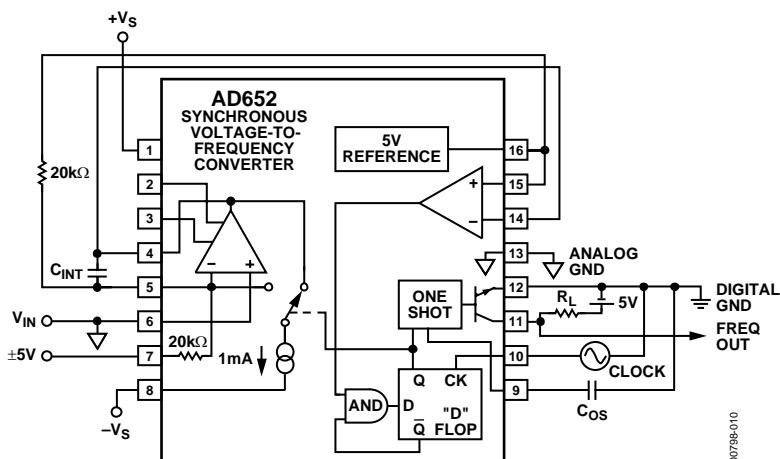

Figure 10. Bipolar Offset
A bipolar input voltage of  $\pm 5$  V can be accommodated by injecting a  $250 \mu\text{A}$  current into Pin 5 (see Figure 10). A  $-5$  V signal provides a zero sum current at the integrator summing junction, which results in a zero-output frequency; a  $+5$  V signal provides a  $0.5$  mA (full-scale) sum current, which results in the full-scale output frequency.
1. Use an external resistor for  $R_{OS}$  and the internal  $20 \text{ k}\Omega$  resistor for  $R_{IN}$  (as shown in Figure 10).